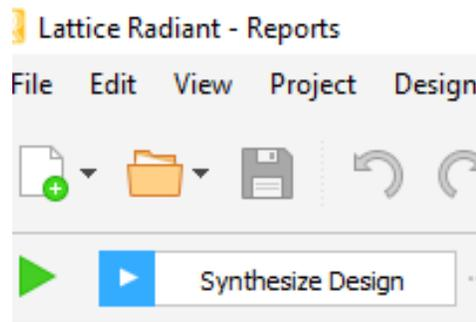

Figure 4.3. Synthesizing Design
4. Click **Finish** to generate the Verilog file. Upon generating your desired design, you can synthesize it by pressing **Synthesize Design** on the top left corner of the screen, as shown in Figure 4.3.